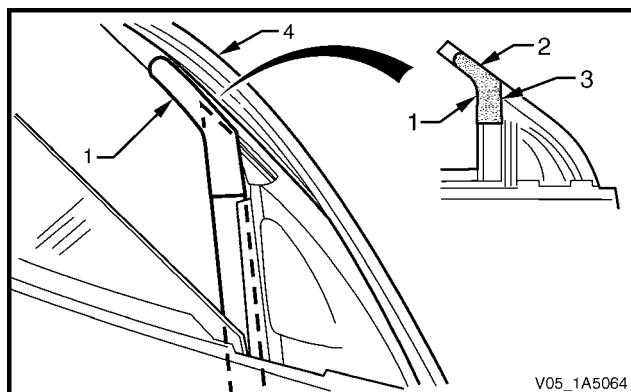

Figure 1A5 – 52
- 7 Ensure the window upper weatherstrip assembly (1) is pushed back fully into the window guide channel assembly (2), refer to Figure 1A5 – 47.